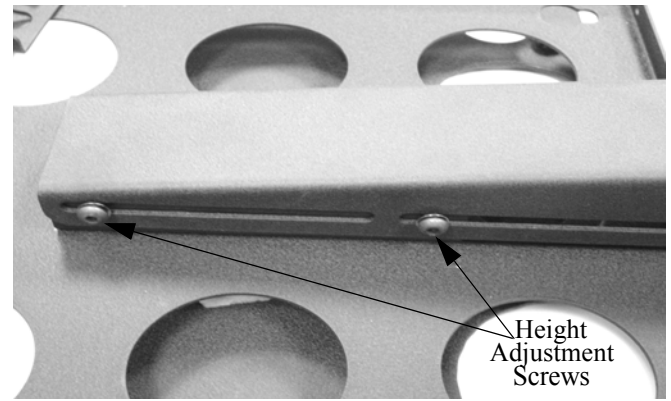

Figure 5. Height Adjustment
1. Loosen four 5/16-18 button head cap screws (see Figure 5).